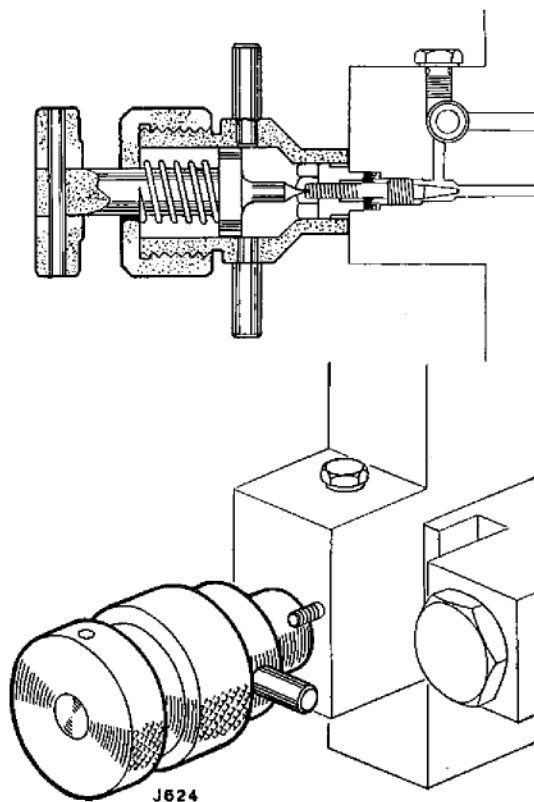

Fig. 4. Slow-running adjustment
9. Fuel from the engine-driven fuel pumps flows into the body inlet connection and through the throttle valve sleeve; the flow being governed by the position of the throttle valve in relation to a shoulder in the bronze sleeve. The position of the valve is selected by the pilot according to the engine speed required. The throttle valve is designed so that over the first part of its travel there are equal increments of r.p.m. for equal amounts of lever movement whilst over the latter part of its travel (at higher engine speeds) there are equal increments of thrust—not r.p.m.—for equal amounts of lever movement. To enable the small fuel flow required for idling speed to be adjusted conveniently there is a subsidiary orifice which by-passes the throttle control orifice and which is adjustable by means of a pointed screw (fig. 4).